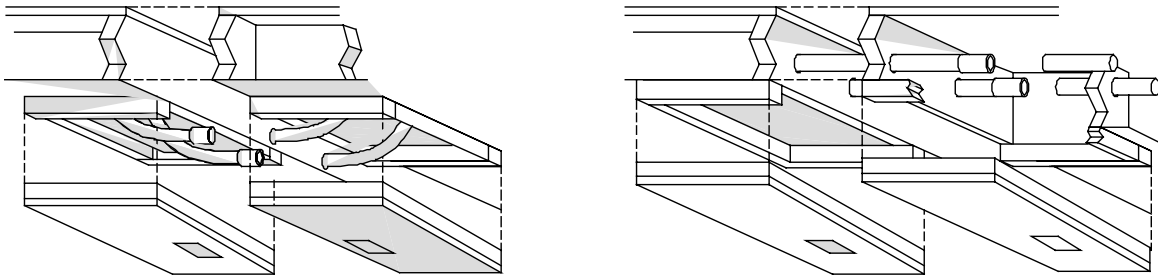

Figure 44. Water line crossover with access panels
3. **Pull lines.** Pull water lines through holes in rim joist or attach shipped loose flex connectors, if applicable (**Figure 44**).